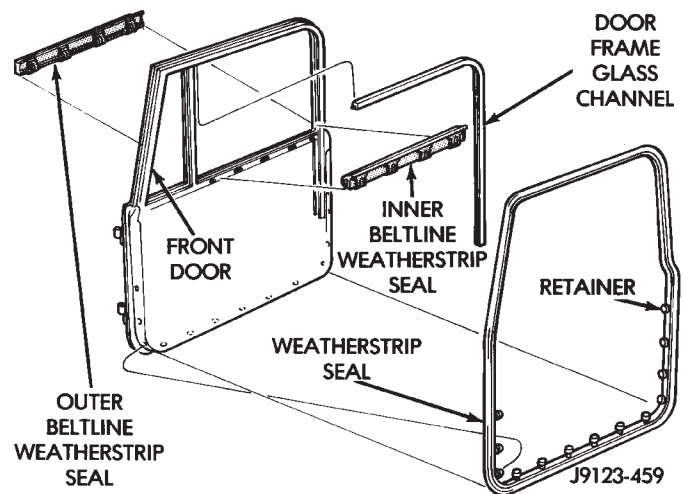

Fig. 17 Door Weatherstrip Seals
The door weatherstrip seals are molded latex foam with a smooth rubber reinforcement layer on the outside (Fig. 17).
Plastic retainers are used to retain the seal on the door panel below the door beltline (Fig. 17). Above the beltline, the seal is retained in a channel formed in the door upper frame.
The beltline weatherstrip seals are retained within the door panels by spring-clip retainers (Fig. 17).
- (1) Carefully remove the beltline weatherstrip seal (Fig. 17) from the door with a weatherstrip seal removal tool or similar pry tool.
- (2) Pry the seal upward to remove it from within the glass and door panel.
- (1) Carefully remove the glass channel (Fig. 17) from the door with a pry tool.
- (2) Pry the seal outward to remove it from the frame.